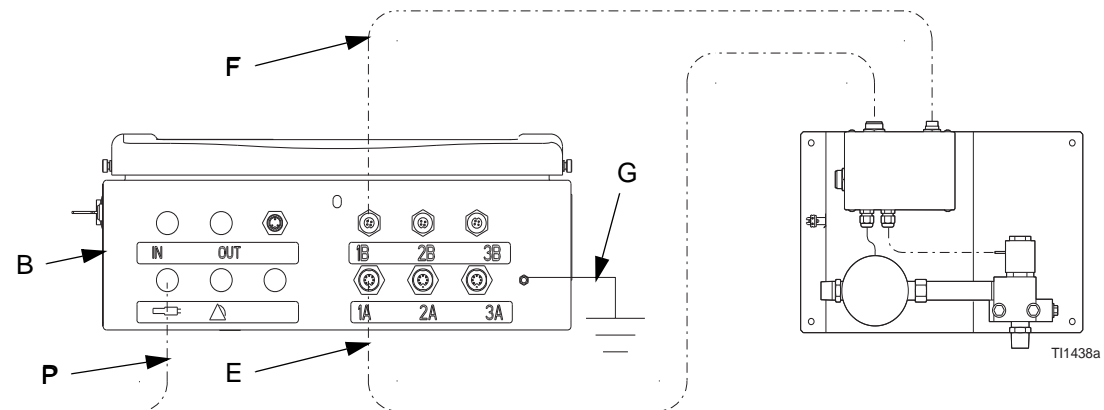
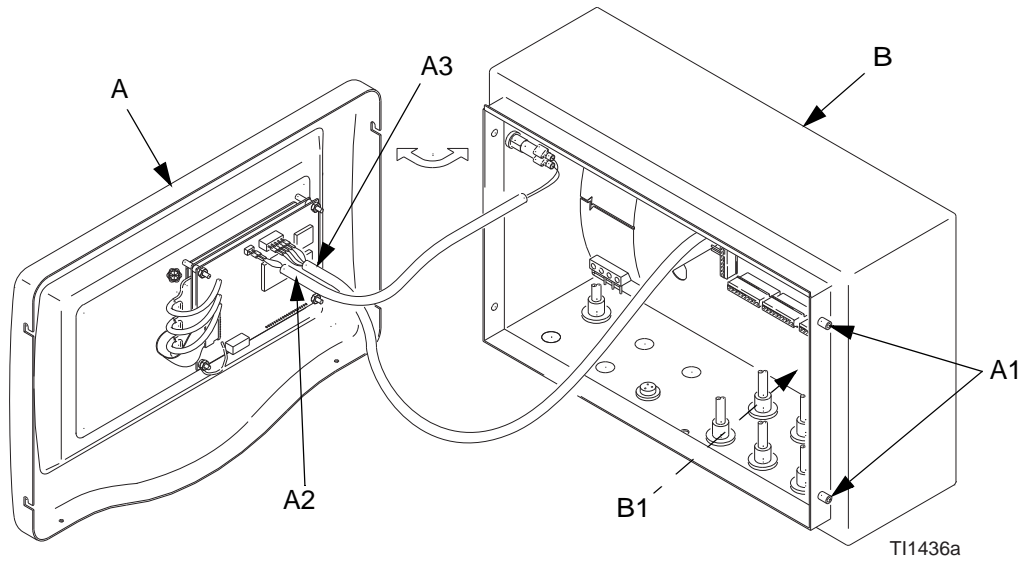

FIG. 13
FIG. 14
2. Disconnect meter (F), solenoid (E), and power (P) cables and ground wire (G) from the bottom of the controller (B). See FIG. 13.
3. Loosen the four screws (A1) and carefully remove the controller cover (A). See FIG. 14.
5. Remove the four bolts (B1) and remove the control box. (B).
6. Secure controller (B) to the mounting surface with four bolts (B1).
7. Plug two connectors (A2, A3) into the display board. See FIG. 14.
8. Install controller cover (A) and secure it with four screws (A1).
9. Reconnect ground wire (G) and power (P), meter (F), and solenoid (E) cables to the controller. See FIG. 13.